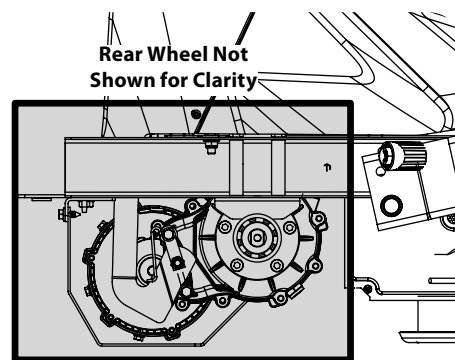

Figure 4-2
- Clean around and near the transmission, axle and the fan area. See Figure 4-2.